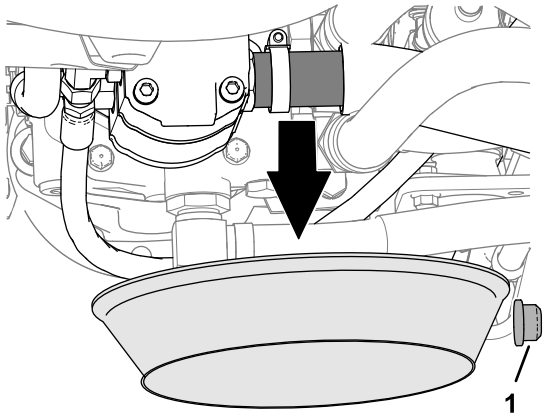

Figure 42
- At the bottom of the machine, align a drain pan under the hydraulic pump and place the hose plug near the pump (Figure 42).